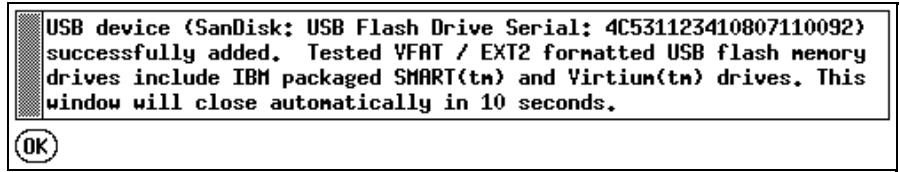

Figure 6-130 HMC - SAIOCP: USB drive insertion message
11. Insert the USB flash memory drive that contains the IOCP text file. Wait for the drive insertion message to open (Figure 6-130).